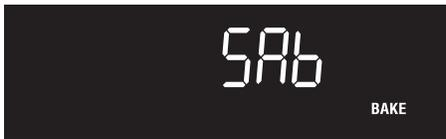

Figure 26: Oven set for Sabbath baking
5. Press and hold the **Bake Time** key and **Set Clock** key simultaneously for about 3 seconds. **SAb** will appear in the display indicating the oven is properly set for the Sabbath feature (Figure 26).